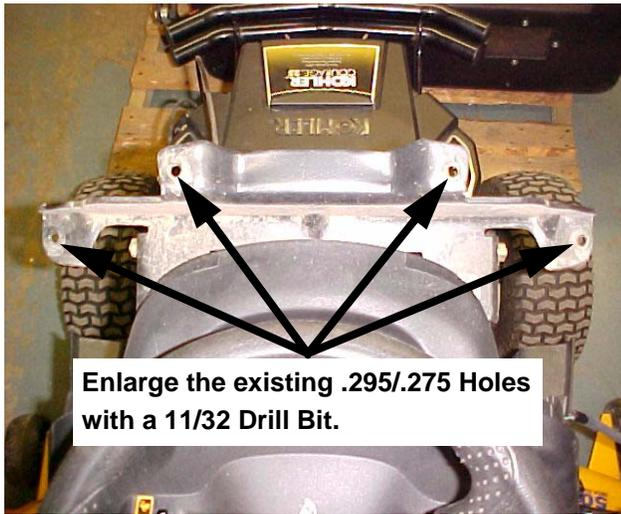

FIGURE 6
4. At this time the mounting holes in the Pivot Bracket need to be enlarged to accept the new 5/16-14 x .75 HiLow Screws **710-1242**. Use an 11/32 drill bit to enlarge the mounting holes shown in Figure 6.